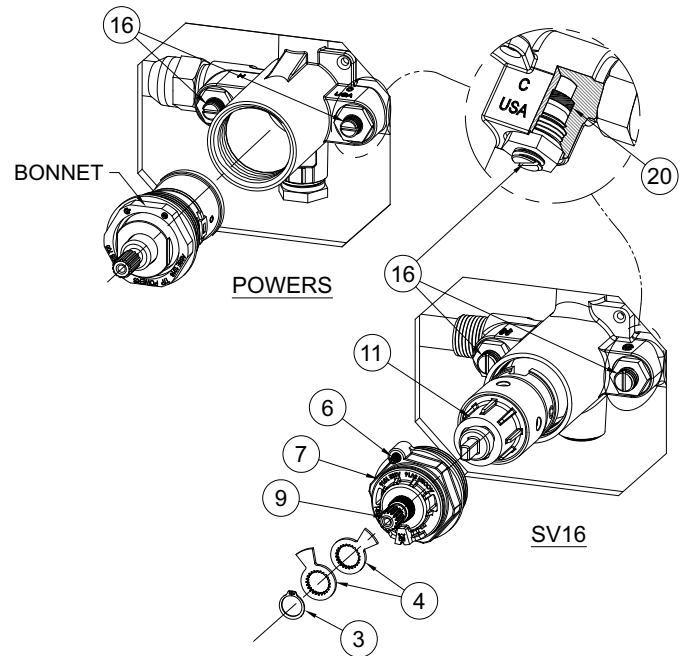

FIGURE 1
4. Remove existing bonnet and cartridge assembly from valve body. See **Figure 1**.